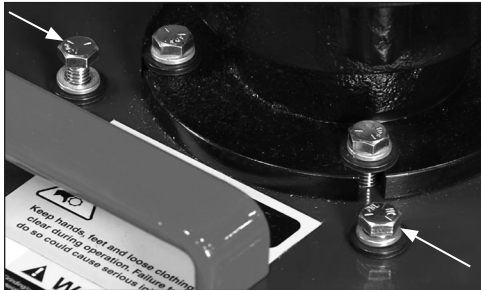

FIG. 1.1
2. Remove the four bolts on top of the shroud cover (Figure 1.1).